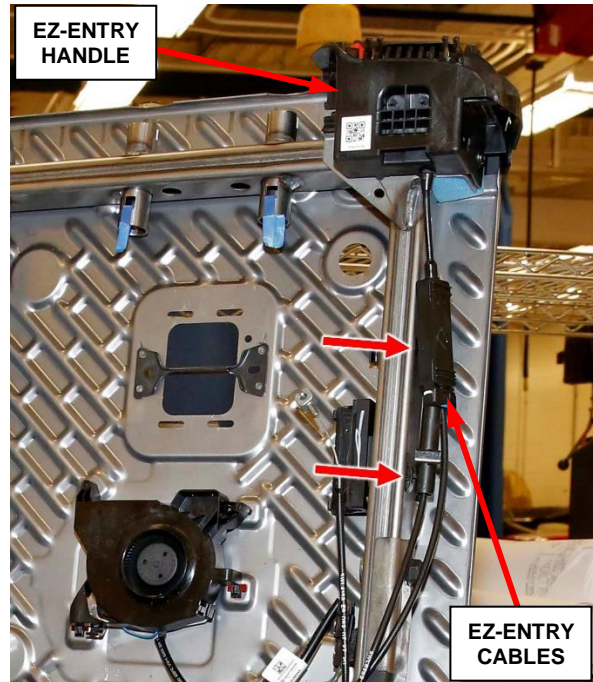

Figure 36 – EZ-Entry Cable Retainers
- 41. Release the push pin retainers to remove the EZ-Entry handle release cables and junction box from the seat back frame sidemember (do not open the junction box or disconnect the cables) (Figure 36).
63. Install the EZ-Entry handle release cable and junction box retainers to the seat back frame sidemember (Figure 36).